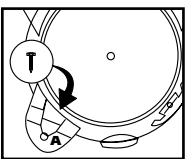

FIGURE 9
8. Secure caster foot to tank with screw provided. **FIGURE 9.**